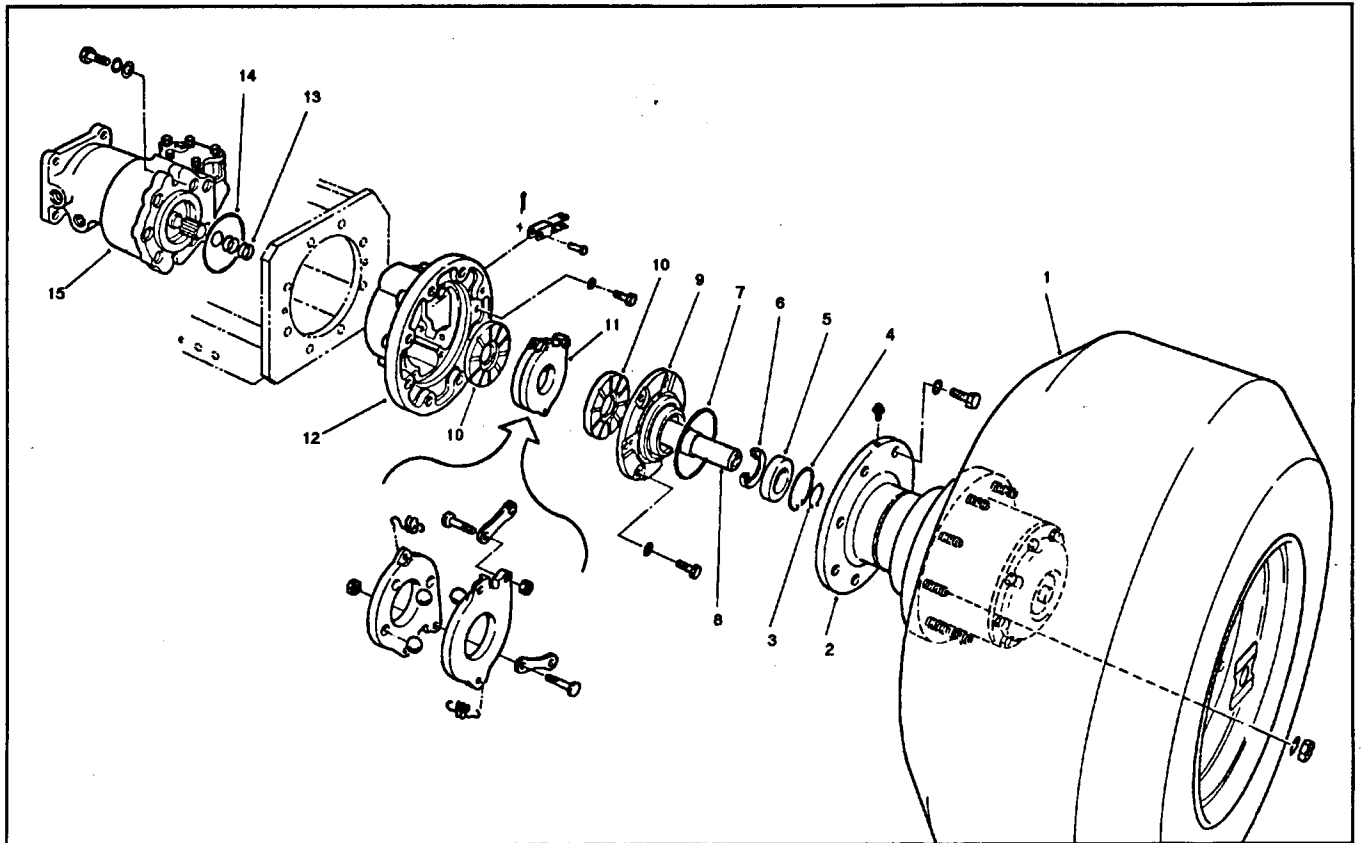

Figure 26
7. Inspect brake actuating disc assembly for proper operation and repair as necessary (Fig. 26).
9. Oil leakage from planetary wheel drive in area of inner brake disc, may indicate that oil seal in brake housing cap requires replacement or wheel motor shaft cup rings require replacement. Inspect oil seal in brake housing cap and replace if necessary (Fig. 26). Inspect cup rings on hydraulic wheel motor shaft and replace if necessary. (See Wheel Motor Shaft Cup Ring Service in this section of the book.)
3. Remove two (2) capscrews, lockwashers and flat washers securing hydraulic wheel motor to brake housing (Fig. 26).